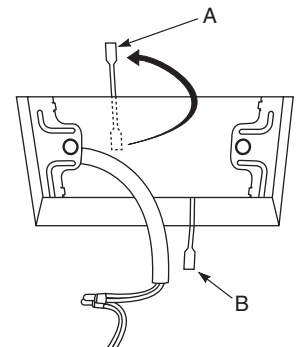

Fig. 1-235
- (4) Fit securely into the ceiling material at sections (A) and (B) as shown in Fig. 1-235.
- (5) Connect the wire (2-wire core) from the signal receiving unit with the wire from the indoor unit. (See section on how to wire the receiving unit.) as shown in Fig. 1-235.
- (6) Use the supplied spacers to adjust for a thickness several inches more than the ceiling material and lightly fasten the receiving unit in place with the small screws (M4×1-9/16", 2 pcs.) supplied with the unit.